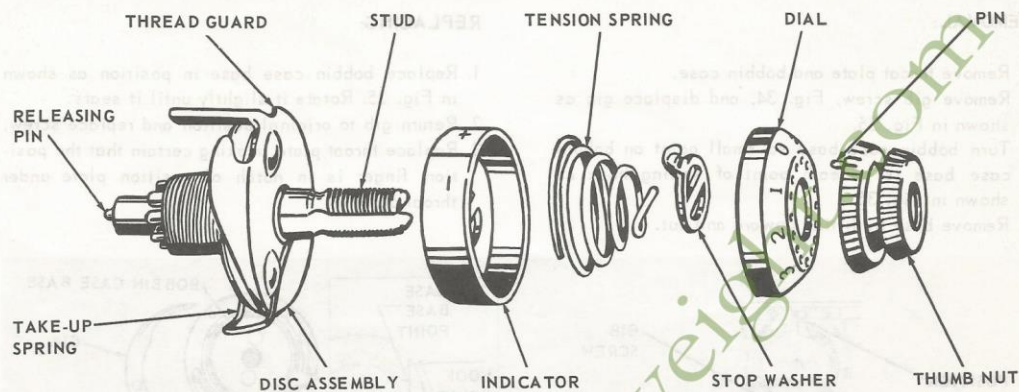

Fig. 31 Needle Thread Tension Assembly
3. Press in on dial, Fig. 31, disengage pin in thumb nut from hole in dial.
1. Make certain that releasing pin is in place as shown in Fig. 31.
5. Replace indicator, open side out, on stud with plus and minus indications at top as shown in Fig. 31.
6. Insert tension spring into indicator and replace stop washer as shown in Fig. 31.